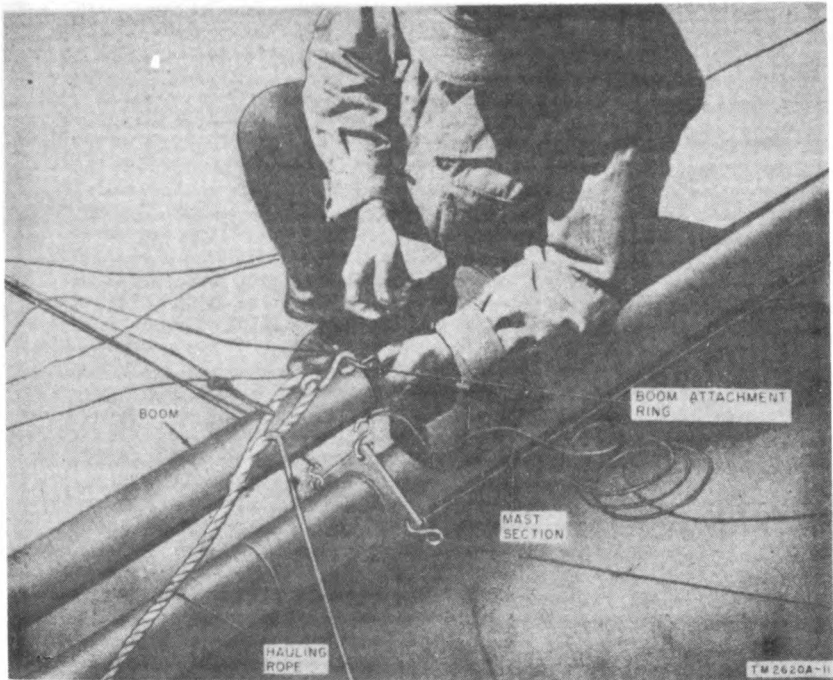

Figure 11. Hauling rope and boom attachment detail.
a. The hauling rope is terminated at one end by an S-hook. Two lines are attached to the same hook (or to the loop in the hauling rope) for guying the boom. Attach the S-hook to the ring at the free end of the boom (fig. 11).